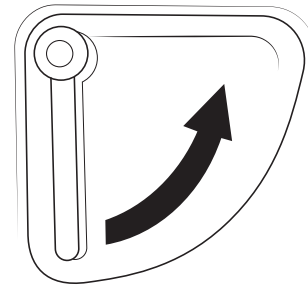

Figure 8 - LIOND rear or side emergency door handle (outside view)
- Lift the handle upward and swing the door open (**Figure 8**).